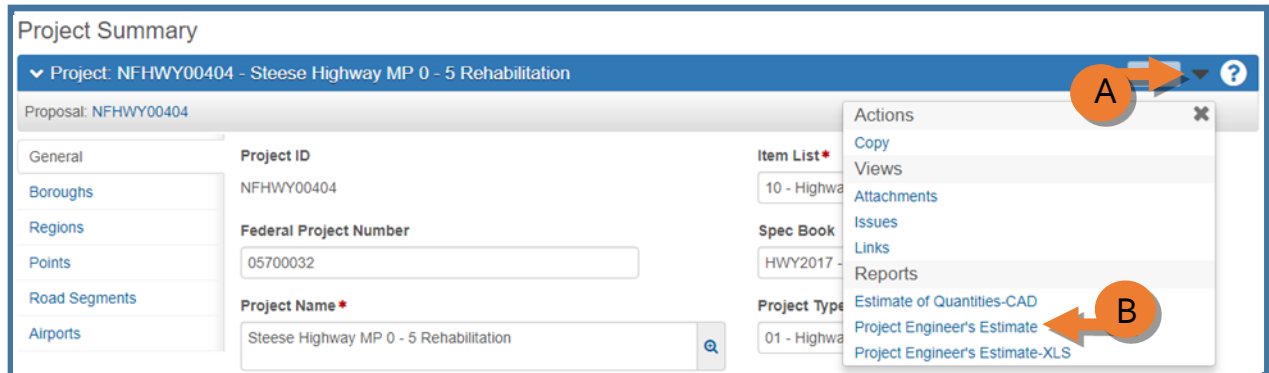

Figure 3.37
1. From the Project Overview component on the dashboard, search for and select your project. The Project Summary component will appear (Figure 3.37).
2. (A) Expand the Project Summary component **action menu** on the right side of the header.
3. (B) Select **Project Engineer's Estimate**.